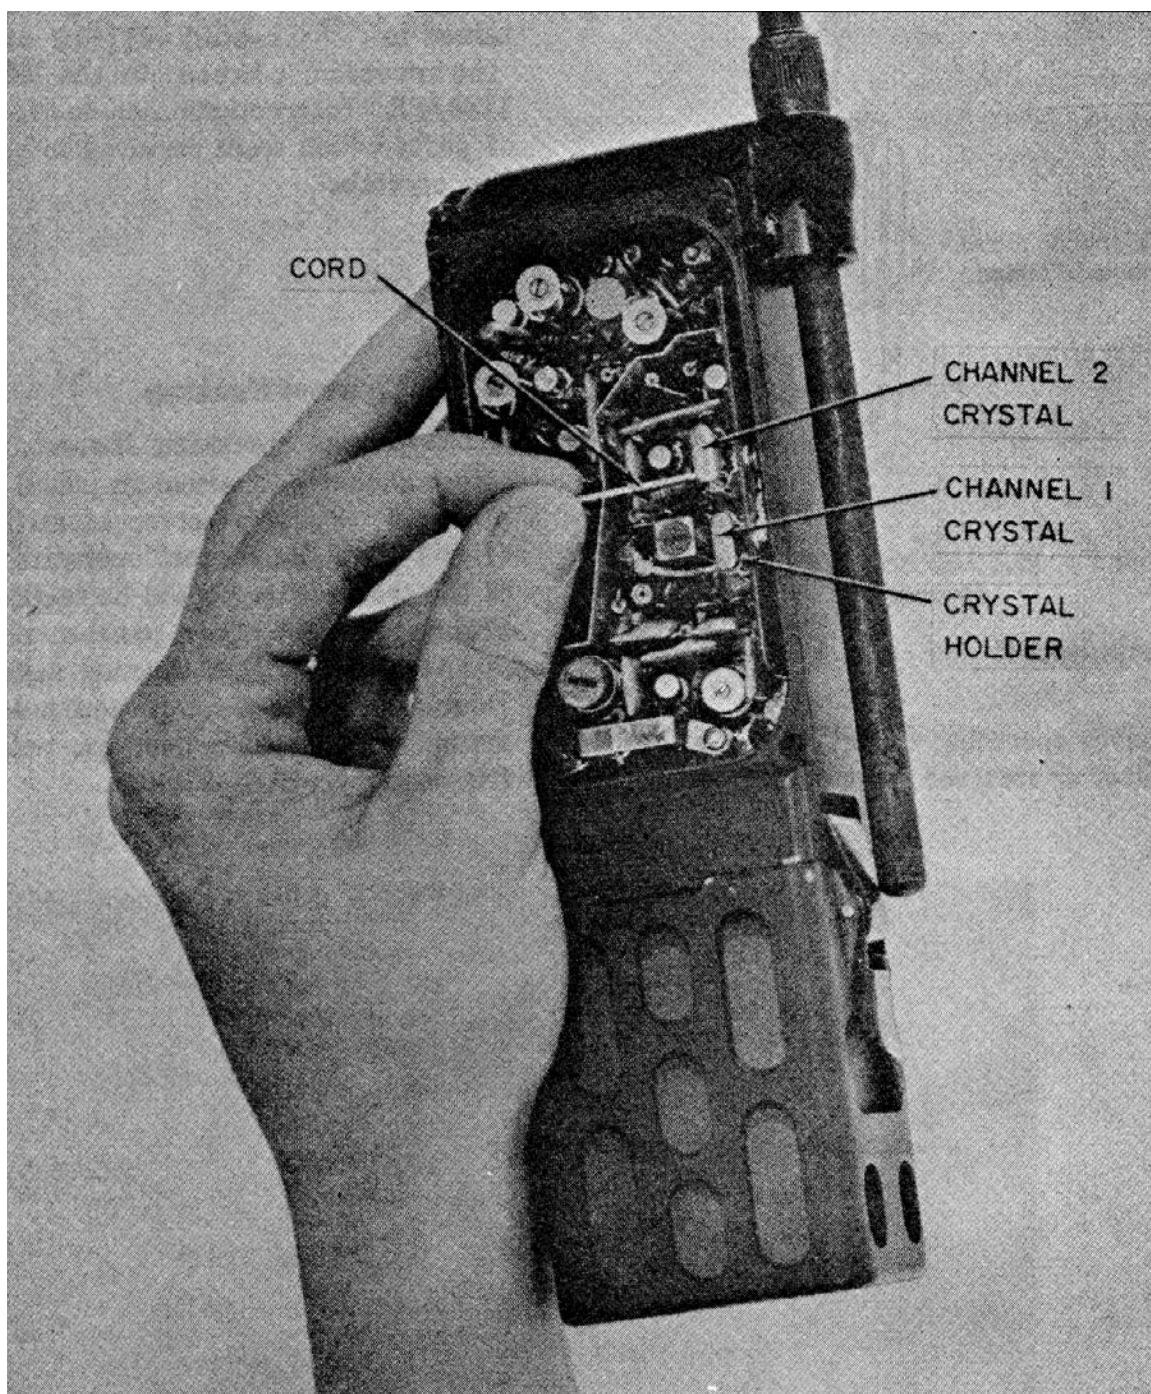

Figure 5-7. Transmitting Set, Radio AN/PRT-4, crystal removed.
- (2) Remove the cover. Note that the crystal for channel 1 is located toward the battery case (fig. 5-7), and the crystal for channel 2 is above the channel 1 crystal, toward the top of the transmitter.
- (3) Locate the desired crystal (fig. 5-7) and pull the cord straight up. This will partially remove the crystal from its socket.
- (4) Push the top of the crystal toward the center of the electronic assembly to release the crystal from the crystal holder, and remove the crystal.
- (5) Place the cord between the two contacts of the crystal socket, with free end of cord toward the center of the electronic assembly.
- (6) Start connector pins of new crystal into crystal socket, with the top of the crystal angled toward the center of the electronic assembly and away from the crystal holder. Be sure cord is between crystal pins.
- (7) Push crystal into crystal holder, then straight down to seat pins in socket.
- (8) Align transmitter according to paragraph 5-18.